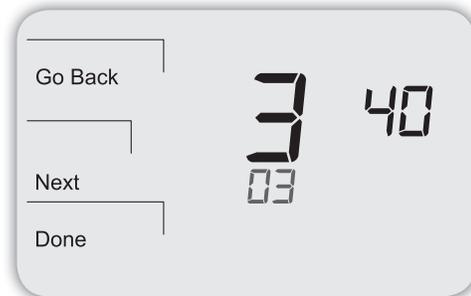

Figure 35.
3. In Service Menu 340, select Option "03," which disables all keys (see Fig.35).